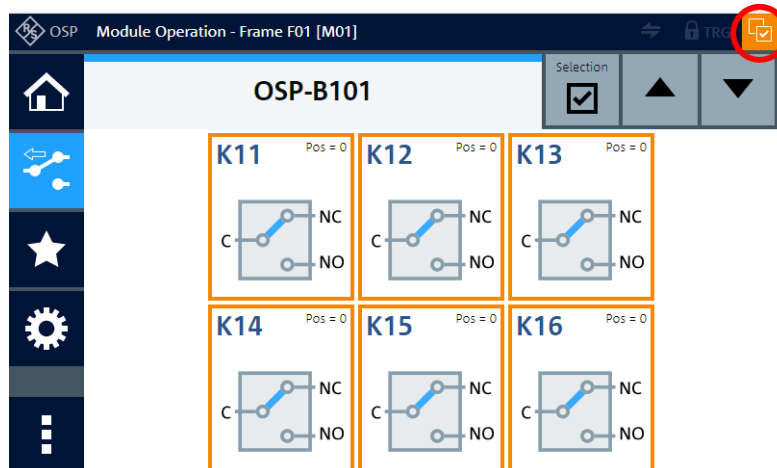

Figure 6-28: All items (here: relays) selected in a module's operation dialog
- If this button was disabled when you clicked "Select All", it remains disabled, as in Figure 6-28